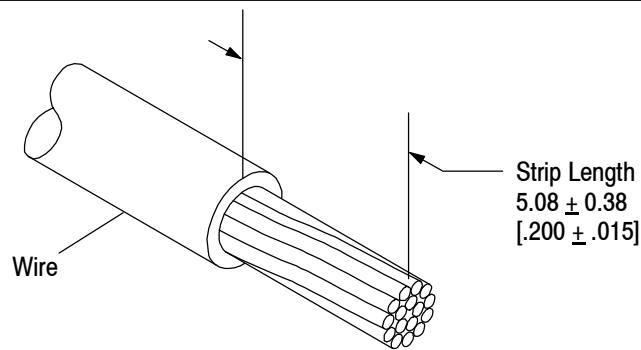

Figure 2
3.4. Wire Preparation (Figure 2)